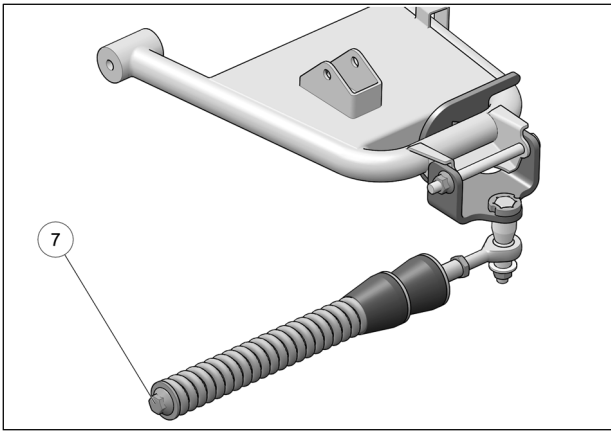

Fig. 10
- Verify that spring assembly bolt (7) is tightened to the recommended torque specification: 75 N•m [55 lb•ft]. See Fig. 10